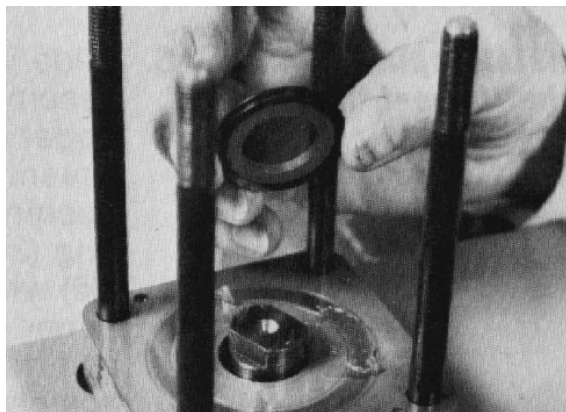

Figure 72
10. Install the face seal, back-up ring and spacer assembly over the end of the input shaft and onto the upper cover plate (Fig. 72).